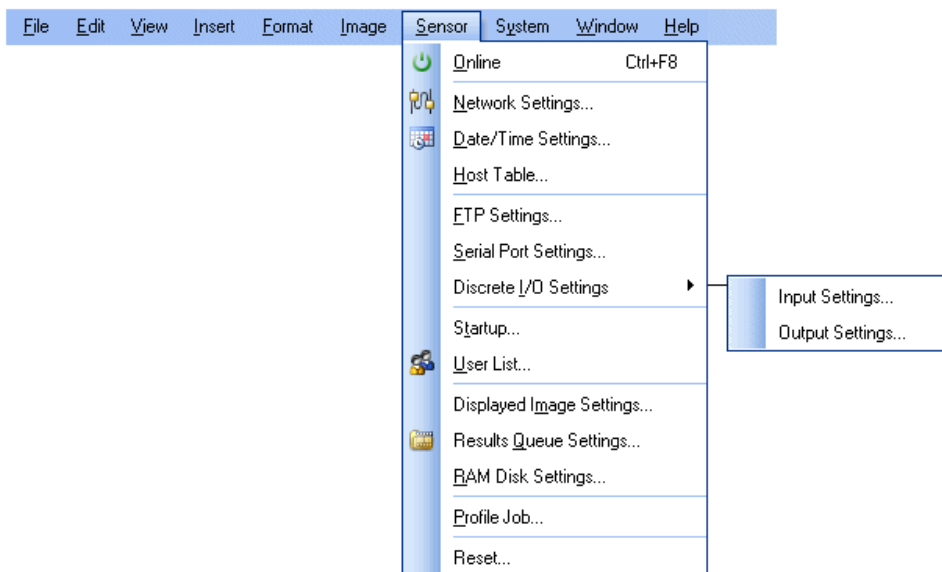

Figure A-1: Accessing the I/O Output Settings
3. From the Sensor menu, select the Discrete I/O Settings submenu. Select the Output Settings option (Figure A-1).